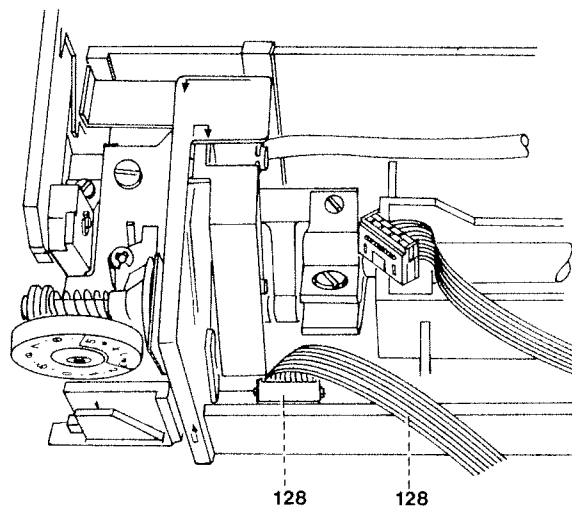

Fig. 33
- Disconnect plug 128 of the ten-wire cable upwards (Fig. 33).